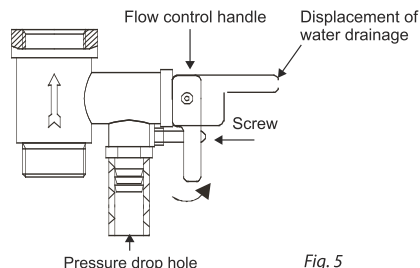

Fig. 5
-unscrewthebackpressuresafetyvalvescrewandsetthehandleinhorizontal position;waterwillflowoutfromthepressurerelevingopening(refer to the figure 5).
5. **The water heater is equipped with a temperature limiter (figure 5)** which cuts off power supply to the heating element upon water overheating or its absence in the water heater. If the water heater is connected to the electrical main, but water does not heats and the handle lamp does not light then the temperature limiter was switched off or not switched on. To reset the water heater to the operating condition it is necessary to: